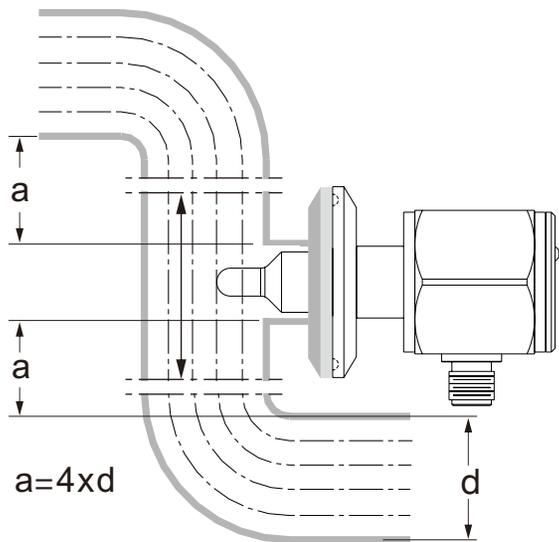

Fig. 1
- (1). "a" has to be 4 times bigger than the internal diameter of the pipe, "d". (See Fig. 1).